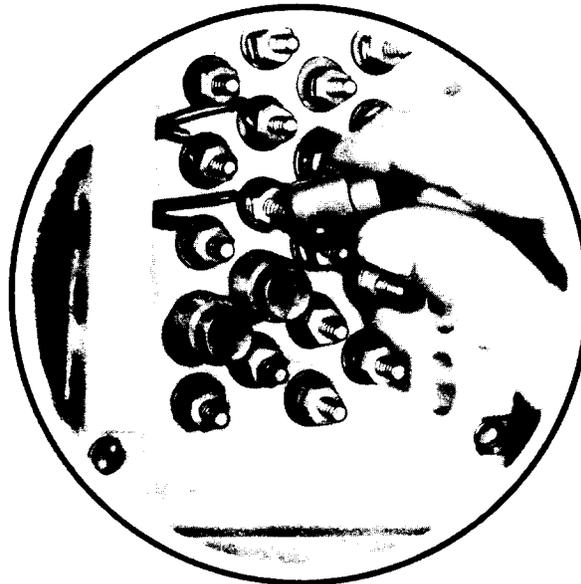

Figure 18 - Installing Binding Post Caps
6. INSTALLING AND REMOVING SSP (Figure 18 through 38)